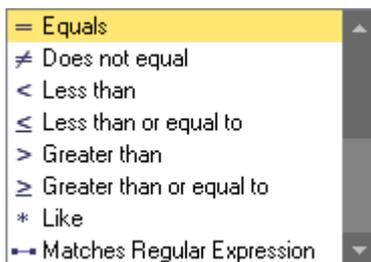

Figure 6-44. Rule drop-down menu of Custom Filter dialog
- Click  of the left column to open the **Rule** drop-down menu, see Figure 6-44.